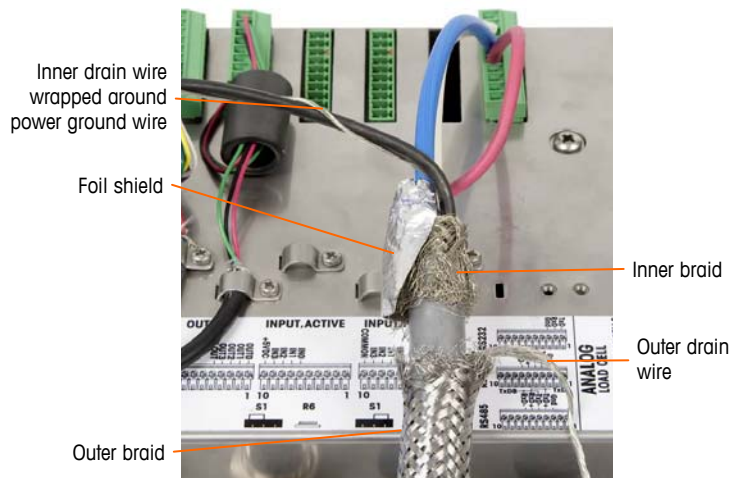

Figure 2-45: PDX Home Run Cable, Panel Mount Enclosure
- a. Slide back the outer braid and fold the trimmed inner braid and foil shield back evenly over the edge of the cable insulation sheath, as shown in Figure 2-45.